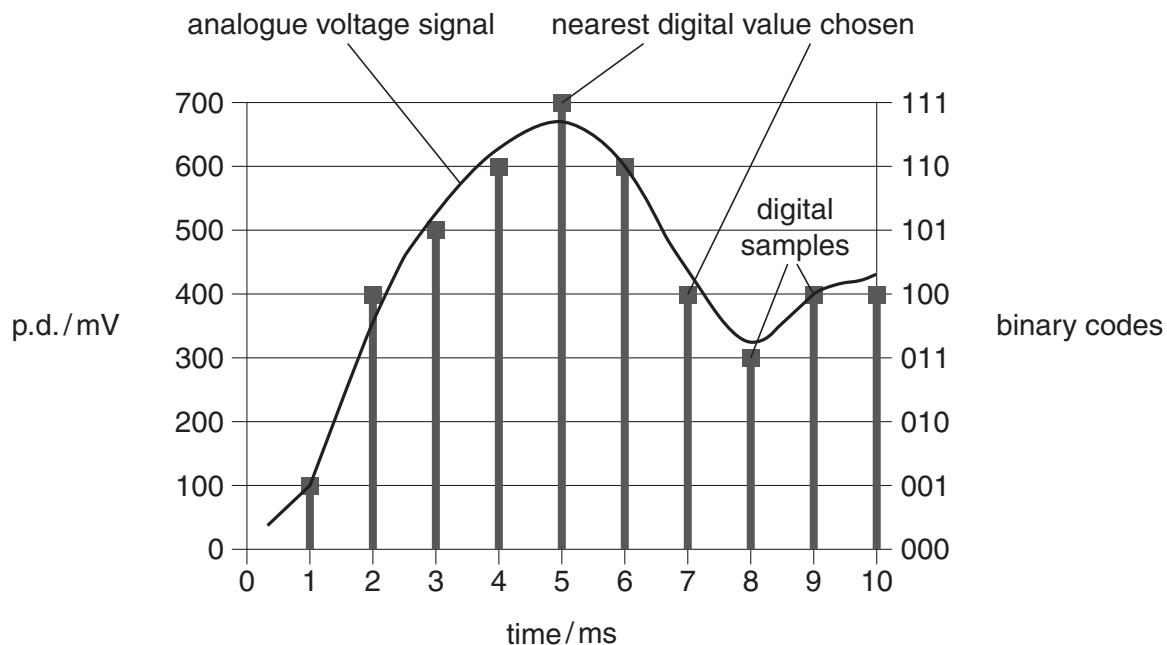

Fig. 5.1
- 5 Fig. 5.1 shows an analogue voltage signal varying in time.
- (a) Use information from Fig. 5.1 to calculate the number of bits per second used for the binary coding.
- (b) Fig. 5.1 shows that the digital samples can differ from the original analogue signal.